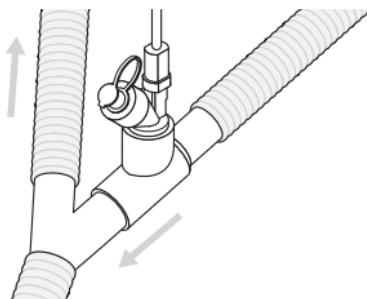

Figure 5. Connecting the Aerogen Solo to a breathing circuit
1. For 22mm adult breathing circuits connect the nebulizer with adult T-piece into the inspiratory limb of the breathing circuit before the patient Y (Figure 5).
Note: Figure 5 shows adult configuration only